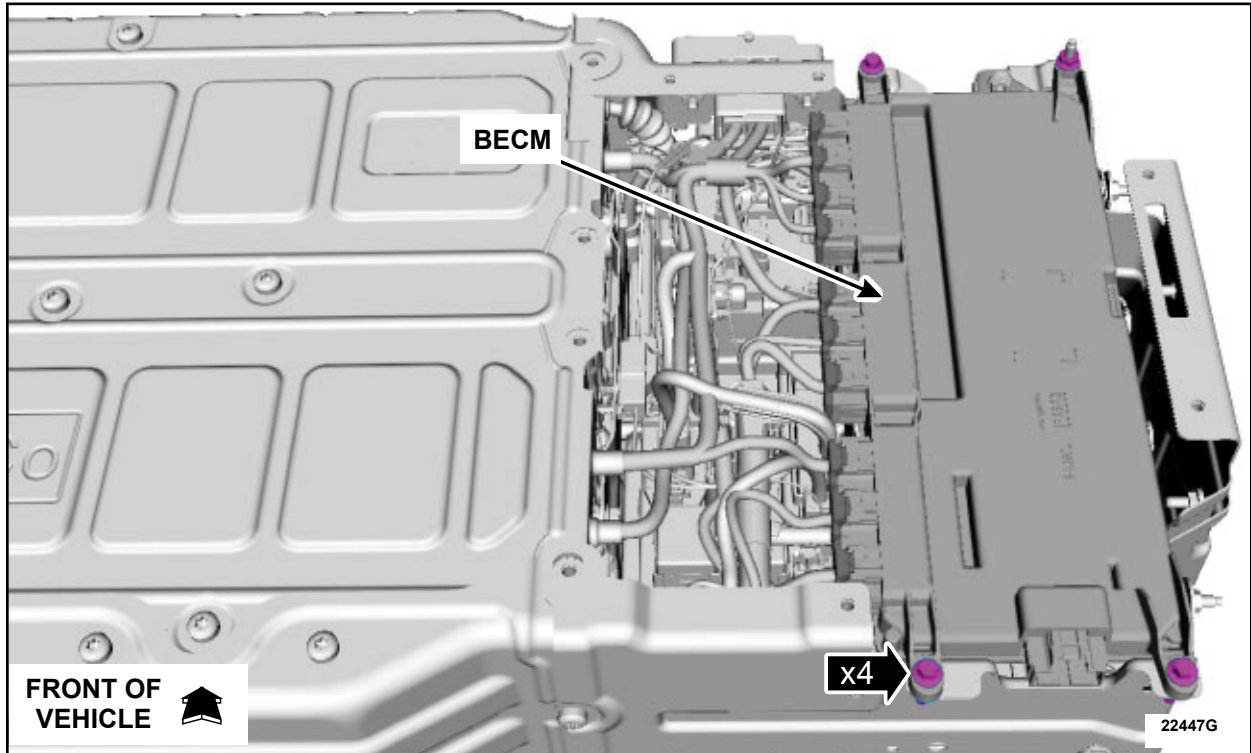

FIGURE 7
10. Remove the Battery Energy Control Module (BECM) retainers. See Figure 7.